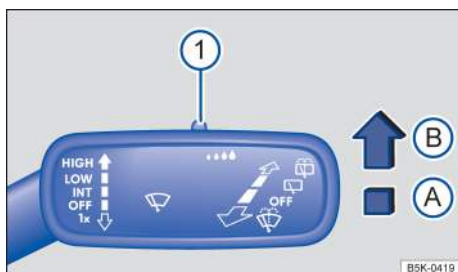

Fig. 82 Windshield wiper lever: Adjusting the rain sensor ① (if equipped).
Push the lever to the desired position → **fig. 82**:
The rain sensor's sensitivity can be adjusted manually → **fig. 82** ①, → ⚠.